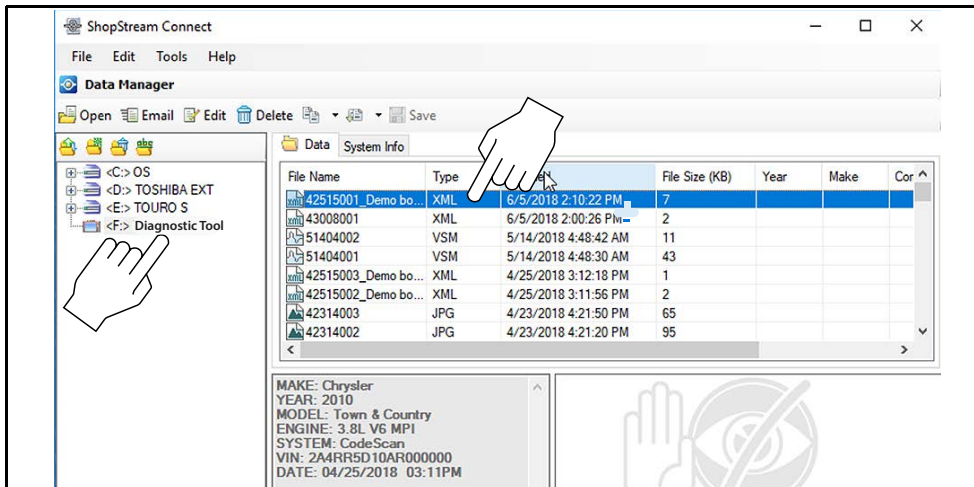
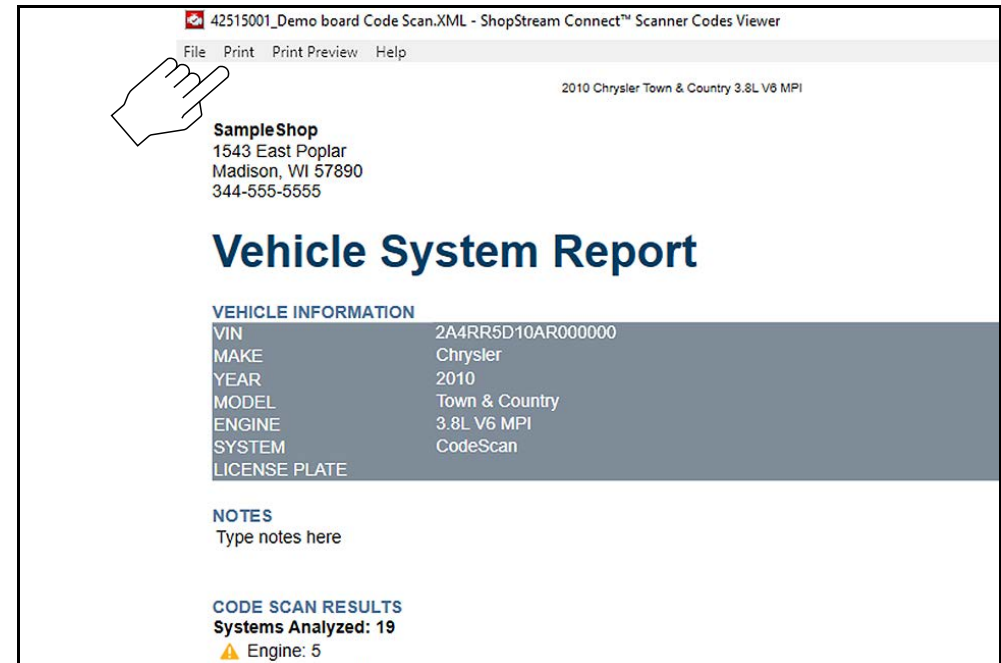

Figure 16-5
Figure 16-6
1. Double-click the code scan .XML file from the file list to open the Vehicle System Report (Figure 16-5) in the Code Scan Viewer (Figure 16-6).
2. Select **Print** or **Print Preview** from the Code Scan Viewer menu to print or preview the Vehicle System Report (Figure 16-6).